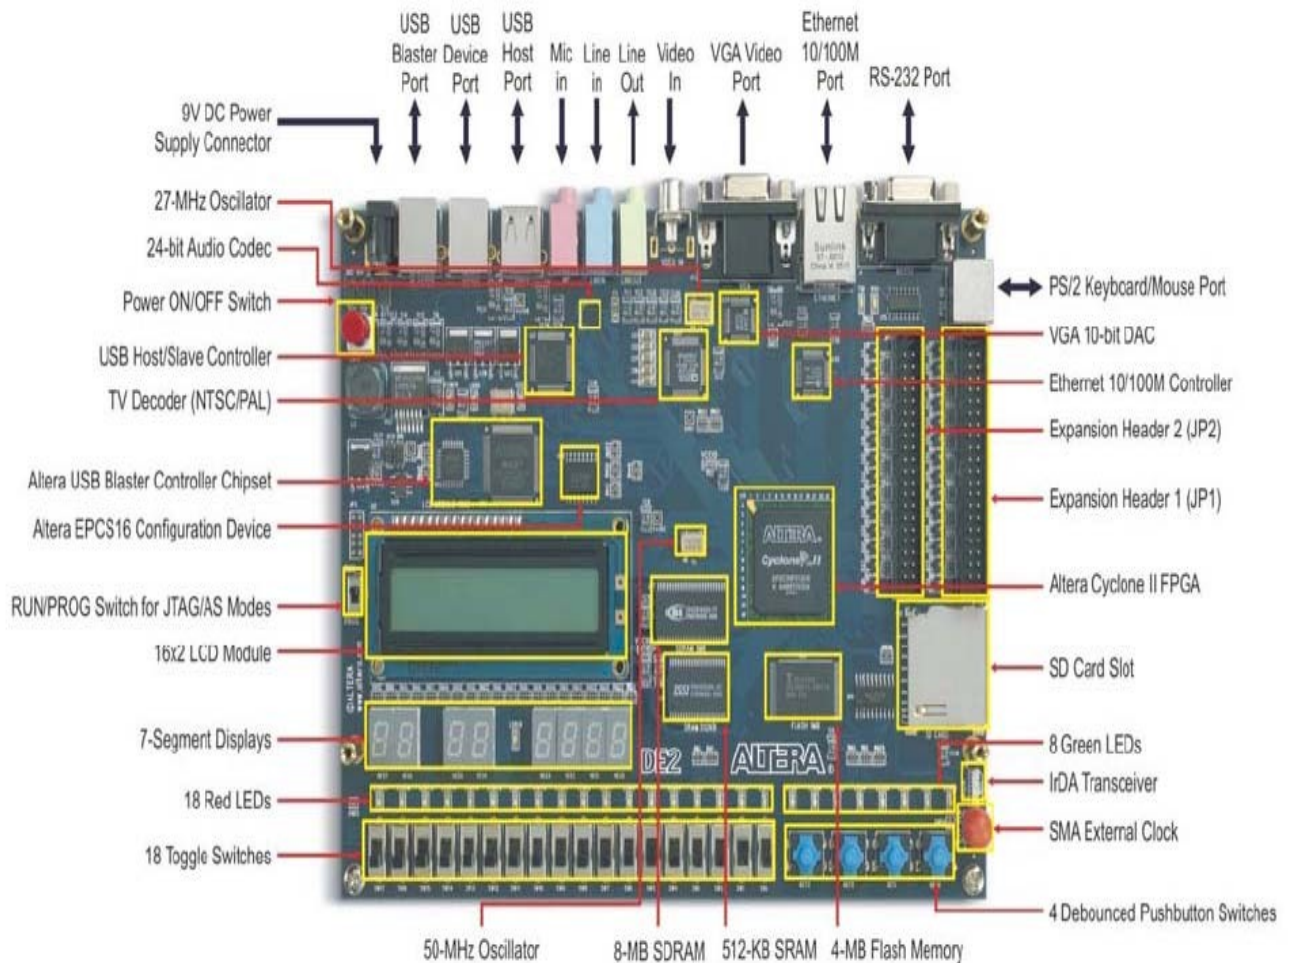

Fig. 24
14) Connect one end of the USB to the computer and second to the USB Blaster port shown in Figure 24. Also connect the Adapter to the 9V DC Power Supply Connector. Flip the RUN/PROG switch the PROG position for configuring it in AS mode. Press the Power ON/OFF switch to power up the FPGA.